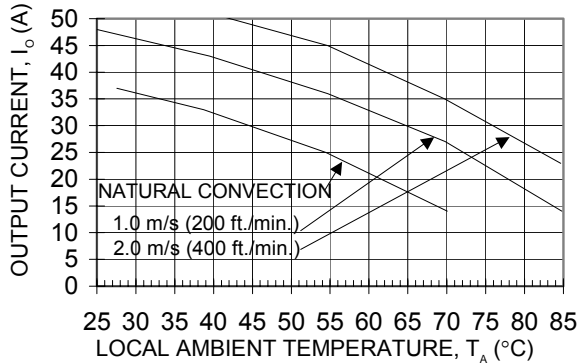

Figure 41. Output Power Derating for QPW050A0F (Vo = 3.3V) in Longitudinal Orientation with no baseplate; Airflow Direction From Vin(-) to Vout(-); Vin = 48V
Note that the natural convection condition was measured at 0.05 m/s to 0.1 m/s (10ft./min. to 20 ft./min.); however, systems in which these power modules may be used typically generate natural convection airflow rates of 0.3 m/s (60 ft./min.) due to other heat dissipating components in the system. The use of Figures 41 - 50 are shown in the following example:
Determine airflow (V) (Use Figure 41):